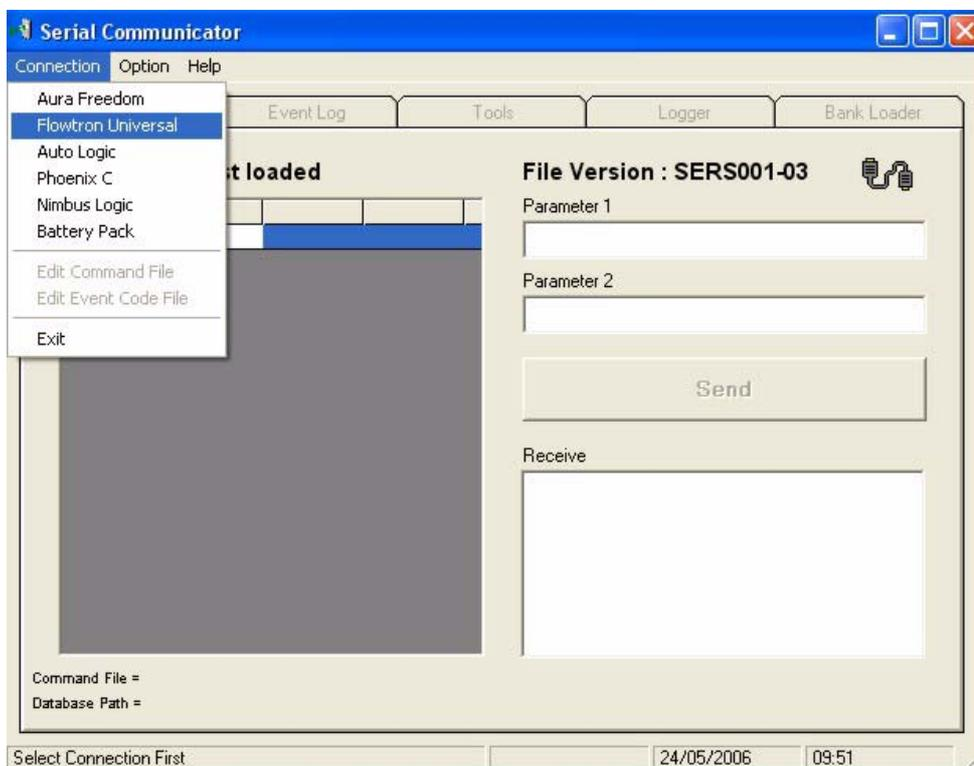

Figure 82 - Communicator Software - Selection of Flowtron Universal Command List
4.4 Click **Connection**, then click **Flowtron Universal** (refer to Figure 82).